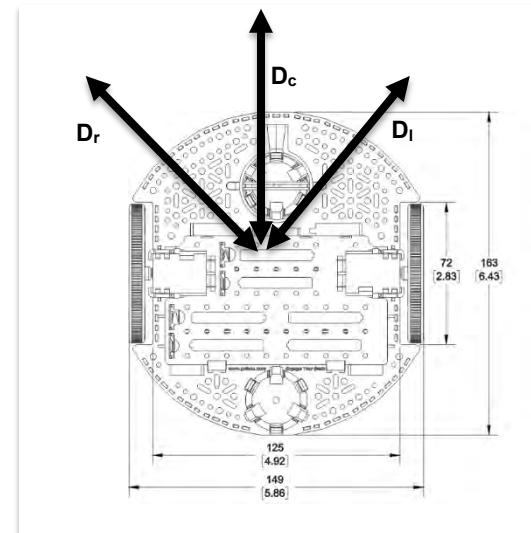

Figure 1. Define distance measured from a central point on the robot.
- If your robot does not have a tachometer to measure speed you could still perform this lab. For example if you have the IR distance sensors, then you could specify the desire to roll down the middle of the road. Assume the left and right IR sensors are measuring distance to the left and right walls, see Figure 1. For this controller we define error as the difference between distance to left and right.  $\text{Error} = D_L - D_R$ . Set the duty cycle of one wheel to a constant, and have the output of the controller determine the duty cycle of the other wheel.